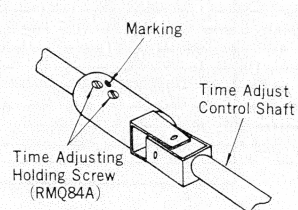

Fig. 13B
2. Mark the time adjusting shaft holding screw, as shown in fig. 13B.